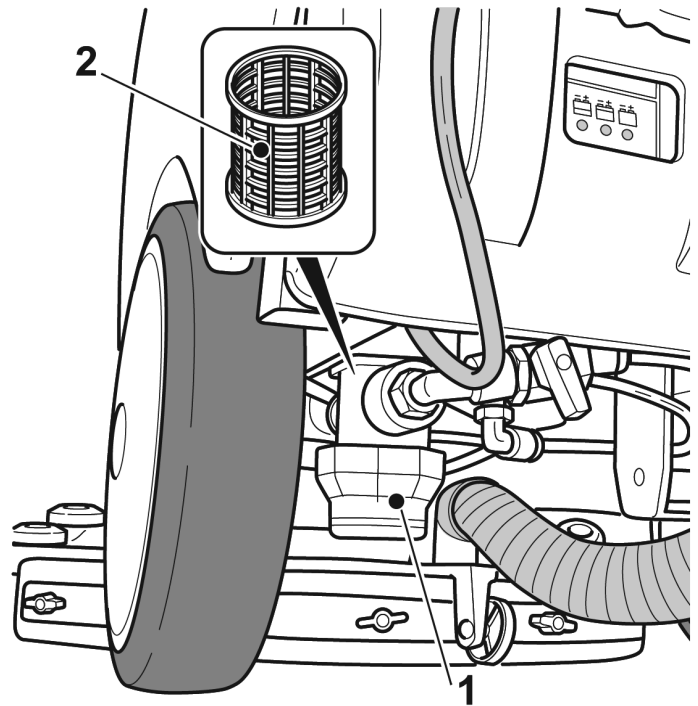

Fig 26
- Unscrew the two bolts (1) that fasten the external box (2) and remove it.
- Unscrew the two nuts (3) of the printed circuit board cover (4) and remove it.
Replace Fuse (5) (Fig 26) Green 30A